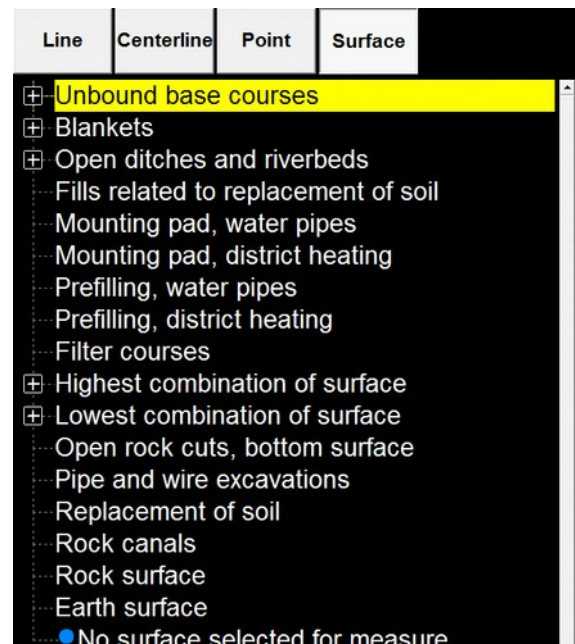

Fig. 37. Object selector
- Project → Read File (Lists all measurable objects: *Line*, *Centerline*, *Point*, *Surface* and *Slope*). (Fig. 37)